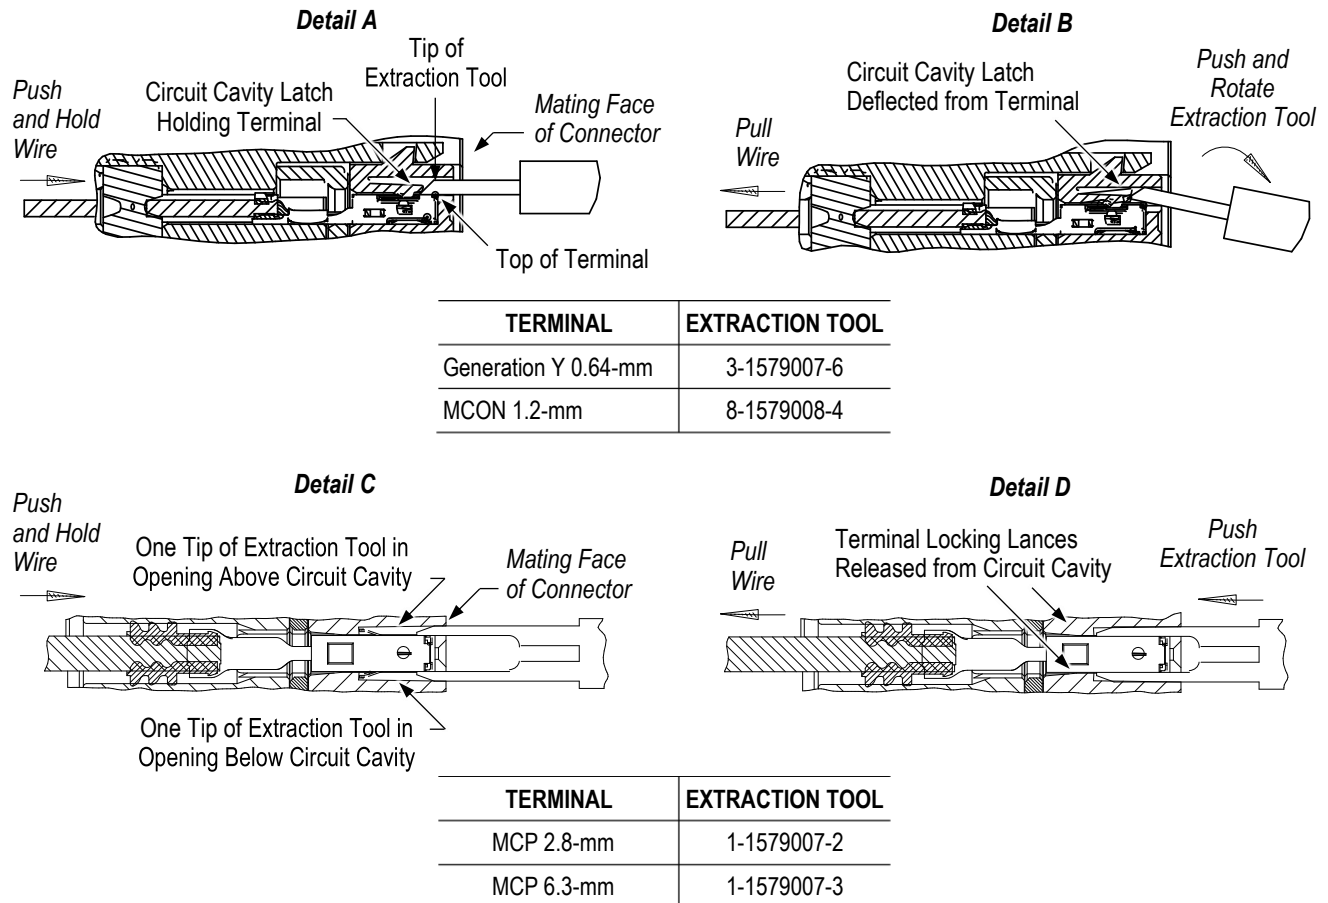

Figure 8
3. Refer to Figure 8 for the applicable extraction tool part number.
- a. Hold the wire in place and, from the mating face of the connector, insert the tip of the extraction tool into the circuit cavity so that it locates between the top of the terminal and the circuit cavity latch. See Figure 8, Detail A.
- b. *Gently* push the tool and rotate it toward the terminal to deflect the circuit cavity latch. See Figure 8, Detail B.
- a. Hold the wire in place and, from the mating face of the connector, insert the tips of the extraction tool into the circuit cavity so that one tip locates in the opening above the circuit cavity and the other tip locates in the opening below the circuit cavity. See Figure 8, Detail C.
- b. *Gently* push the tool until the terminal locking lances are deflected. See Figure 8, Detail D.